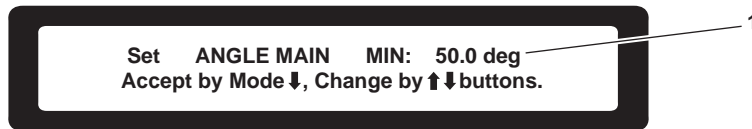

Figure 24. Minimum Angle Alarm Setting Screen
5. Press the MODE button (figure 2, item 3) and the down arrow button (figure 2, item 4) on the LMI receiver panel (figure 2, item 2) to reach the minimum angle alarm setting screen (figure 24).
6. Press the down arrow button (figure 2, item 4) or the up arrow button (figure 2, item 5) on the LMI receiver panel (figure 2, item 2) until the readout (figure 24, item 1) displays the angle value desired.